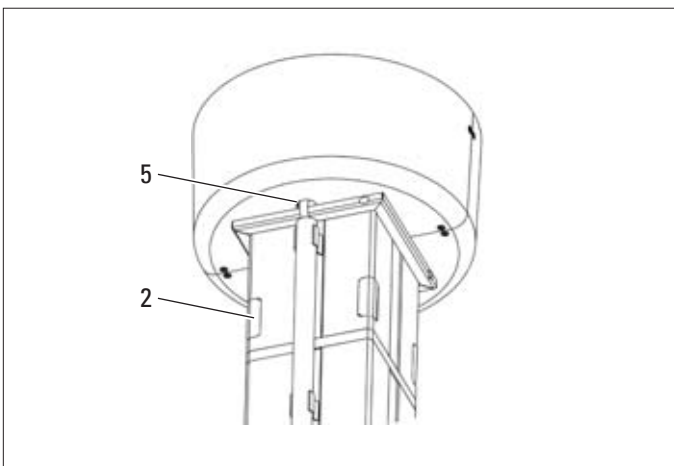

Fig. 2
The recess (5) for the video cable is then free (Fig. 2).